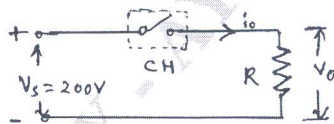

Fig. Q9 (b)
- A dc chopper shown in Fig. Q9 (b) has a resistive load of 10  $\Omega$  and the input voltage  $V_s = 200 \text{ V}$  when the chopper switch is ON, its voltage drop is 2 V and the chipping frequency is 1 kHz. If the duty cycle is 50% determine (i) Average output voltage (ii) RMS output voltage (iii) The chopper efficiency (iv) The effective input resistance of the chopper. (05 Marks)